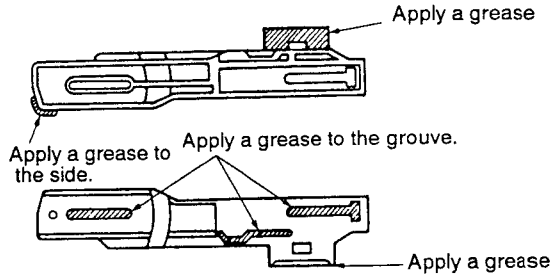

Fig. 12
③ Install the cam gear in the position where projection B of the cam gear comes to the front of the follow gear installation shaft.
① Grease the spring slanting cam. (Fig. 12)